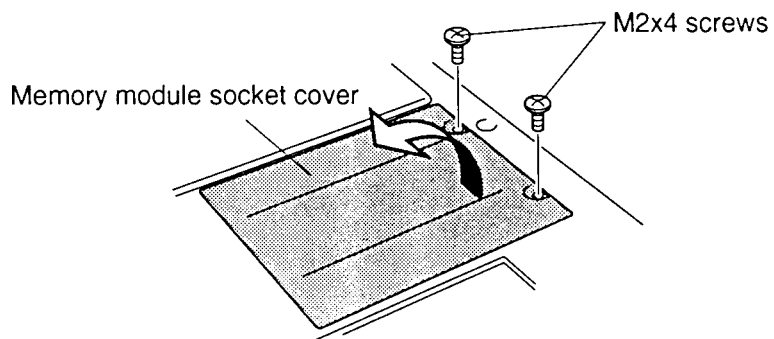

Figure 4-6 Removing the memory module socket cover
To remove an optional memory module, make sure the computer is in boot mode then follow the steps below and refer to figures 4-6 and 4-7.
To install an optional memory module, make sure the computer is in boot mode then follow the steps below and refer to figures 4-6 and 4-8.
4. Lay the cover in place and secure it with **two M2x4 screws** (figure 4-6).